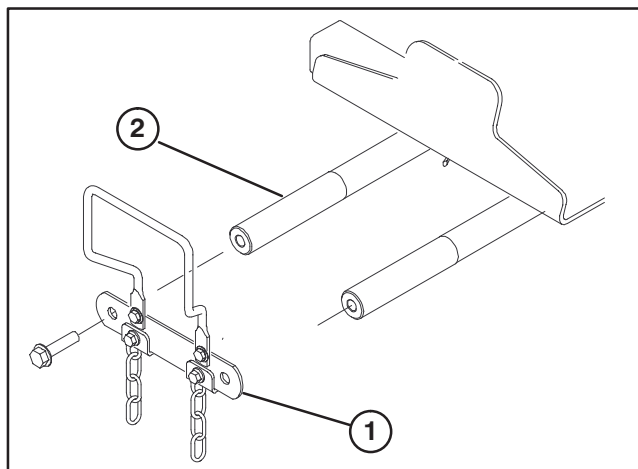

Figure 12
INSTALL FRONT LIFT ARMS (Fig. 12 – 26)
1. Remove (2) capscrews securing lift arm pivot shaft link to lift arm pivot shafts. Remove and retain pivot shaft link and capscrews (Fig. 12).